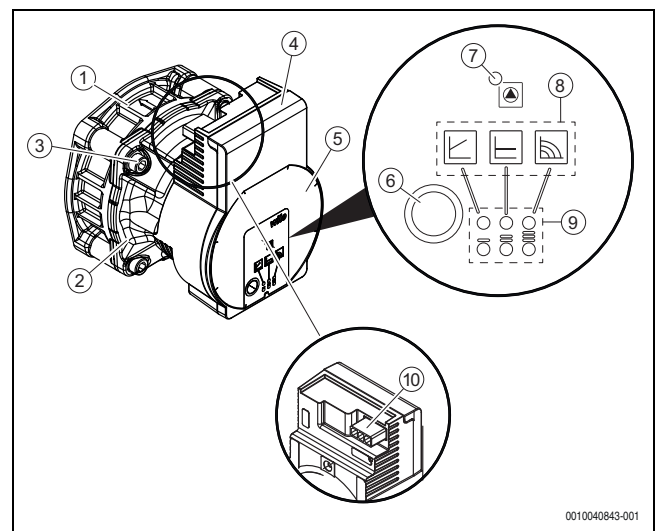

Fig. 21 Description
- ▶ Note the direction arrow on the pump housing (→ fig. 21, [1], page 9).
Leaking water may damage the control module (→ fig. 21, [4], page 9)
- ▶ Never open the control module (→ fig. 21, [4], page 9) and never remove operating elements.